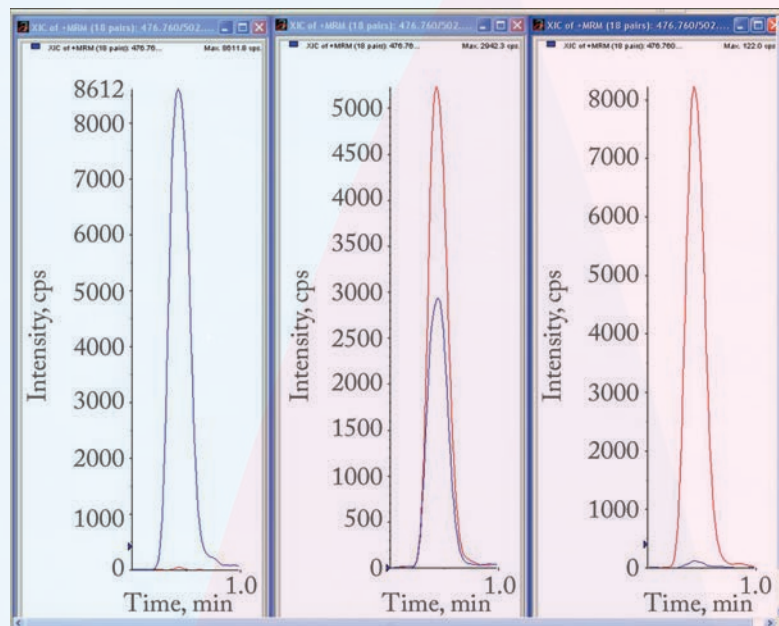

Figure 1. MS-MRM analysis of trypsinized hemoglobin detects, left, normal homozygote (AA), center, sickle heterozygote (AS), and right, sickle homozygote (SS).
Progress was immediate: the most informative MRM for sickle peptide, i.e. adjacent to the mutation site, was identified, together with an equivalent MRM for wild-type peptide. Within an hour we demonstrated that, using rapid tryptic digests of whole blood, direct flow injection, and MRM mode analysis, we could differentiate normal wild-type beta T1 subjects, heterozygous sickle carriers, and homozygous sickle cell disease patients. (see Figure 1). That very same afternoon we were able to optimize the tuning parameters and set up the same procedure for each of the other sickling mutations. Subsequently, we collected a couple of hundred highly informative blood samples and analyzed them with our optimized method. We demonstrated 100 percent sensitivity and 100 percent specificity. The concept was patented by King's College, London, and we eventually published the work in 2005 (1).